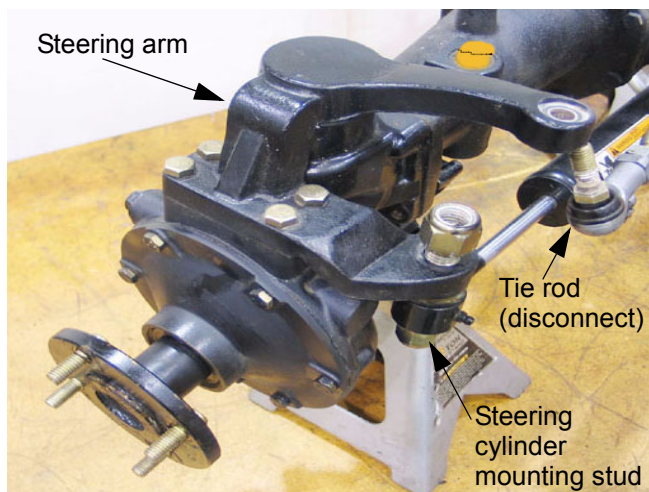

Figure 7.3
- 7.3. Remove the nut from the tie rod end, using a 19 mm wrench for the nut and a 17 mm wrench to hold the stud. See Figure 7.3.